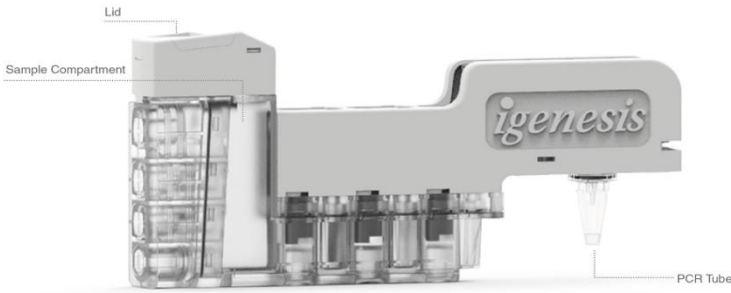

Figure 1. CV/DV/ZV iCassette (Lateral View)
1.3 Open the lid of the iCassette, and pipette 900 μL of sample or controls to the CV/DV/ZV iCassette sample compartment as shown in Figure 1. slowly, close the lid tightly.